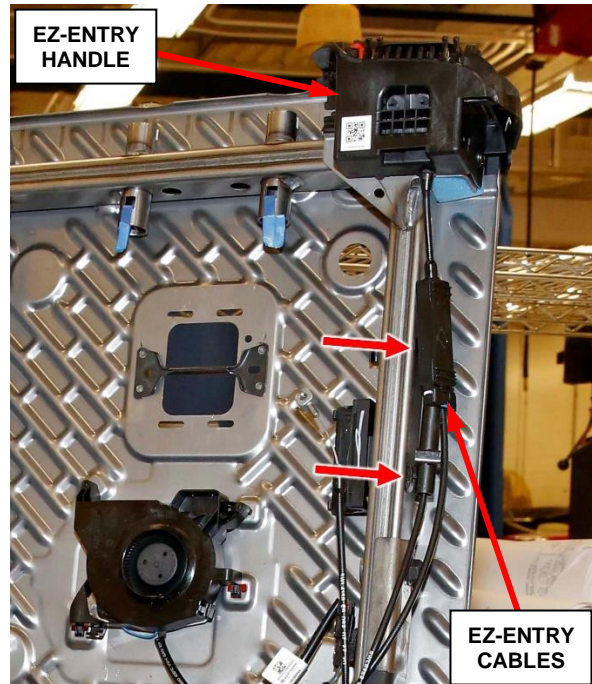

Figure 86 – EZ-Entry Cable Retainers
32. Release the push pin retainers to remove the EZ-Entry handle release cables and junction box from the seat back frame sidemember (do not open the junction box or disconnect the cables) (Figure 86).
46. Install the EZ-Entry handle release cable and junction box retainers to the seat back frame sidemember (Figure 86).